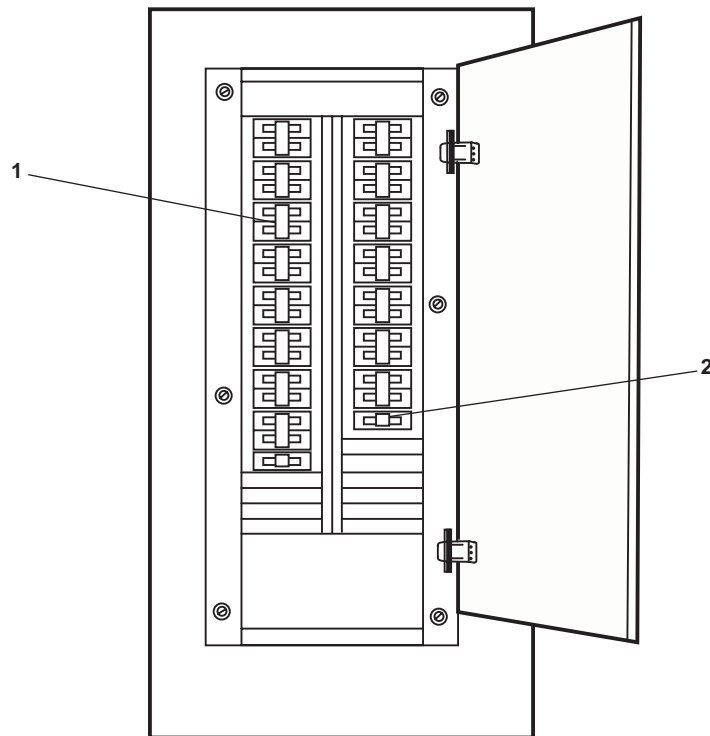

Figure 7. 120 V Distribution Panel No. 2
- a. 01 LEVEL DRINKING FOUNTAIN. (figure 7, item 1).
- b. PILOT HOUSE DRINKING FOUNTAIN & COFEE MAKER. (figure 7, item 2).